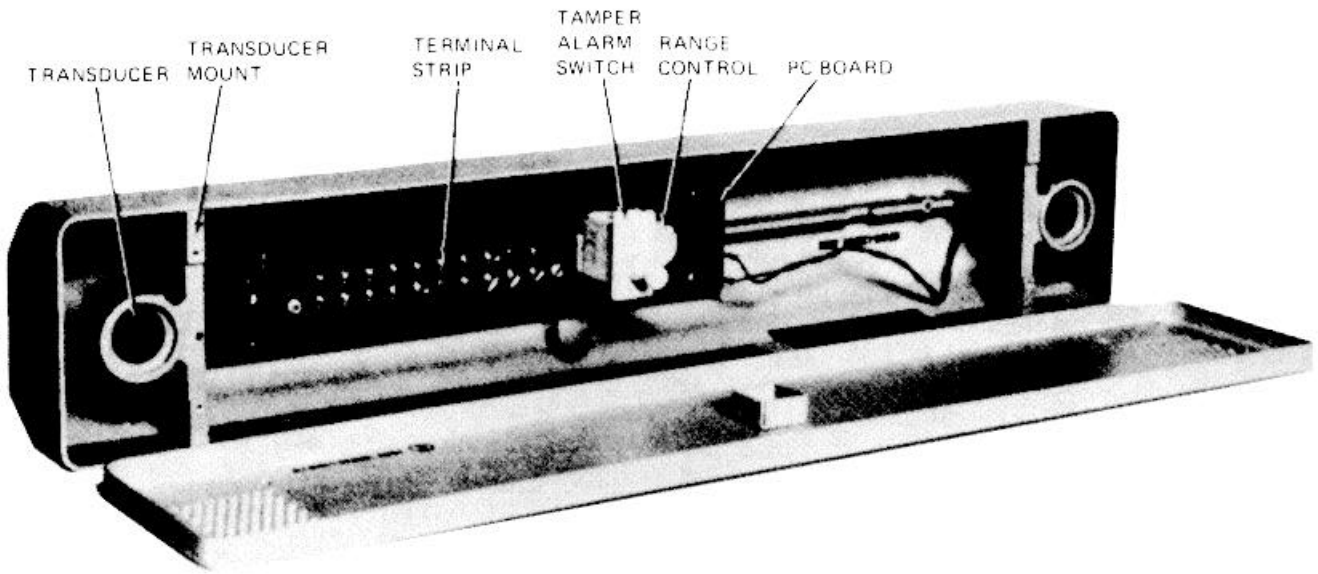

Figure 1-2. Ultrasonic Motion Signal Transceiver
- c. The Transceiver (fig. 1-2) consists of a PC board mounted inside a steel chassis. Mounted on the PC board are the range control, TAS, terminal strip for wire connections, and all electronic components. Transmit and receive transducers are supported by mounts inside each end of the chassis. The chassis has a removable cover and access holes where interconnecting wiring is brought in through conduit.